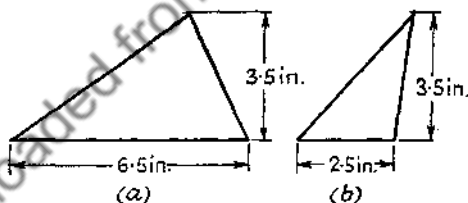

Fig. 8
(1) Calculate the areas of the triangles shown in fig. 8.